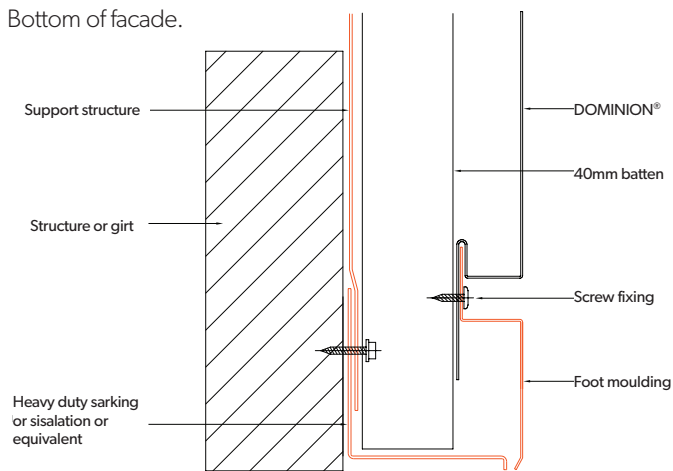

Figure 13.2.7:
5. The perimeter of the membrane must be sealed also with premium quality Sisal tape with holding or 40mm battens to secure it. Figure 13.2.7.